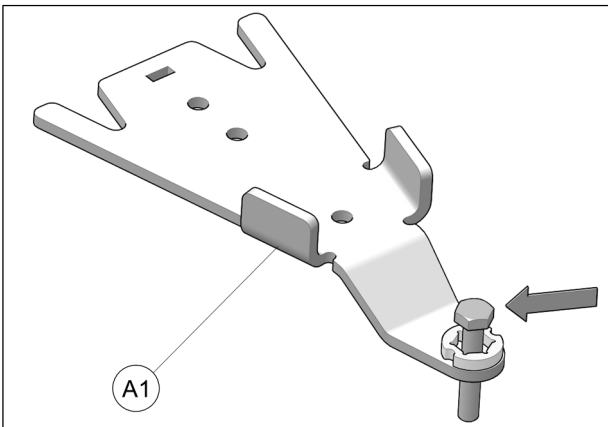

Fig. 19
4. Insert bolt in front anchor brackets (A1) as shown in Fig. 19